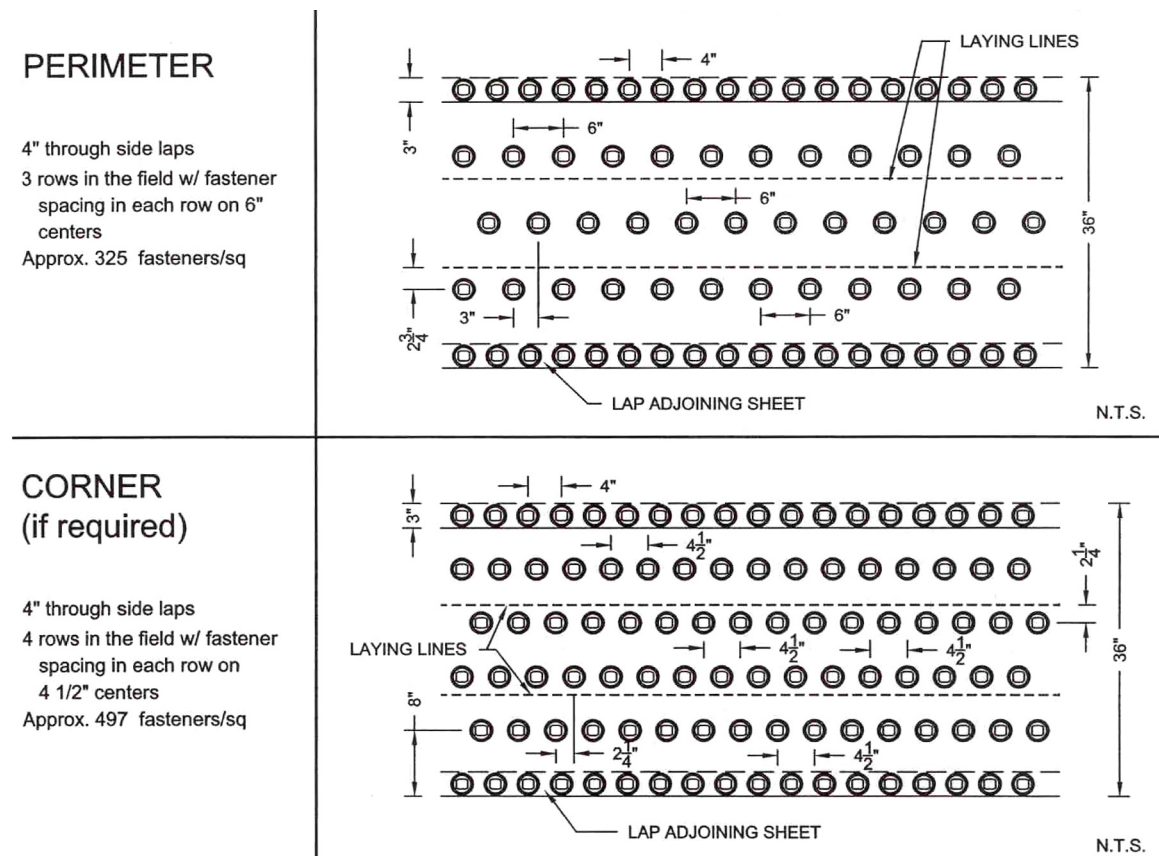

Figure 3
- Apply RT Pellets at a rate of 4 pounds per square. Coverage should be uniform and consistent across the surface. Figure 2 illustrates RT pellet distribution at a rate of 4 pounds per square. **Pellets should penetrate the Insulcel such that the pellet is nested in the concrete surface. Pellets should not sink entirely or be resting on the surface of the concrete.** Proper pellet penetration depth is illustrated in Figure 3. The optimum vertical drop distance for the pellets to achieve proper penetration of the Insulcel is no more than 12 inches from the surface of the fresh concrete.
1. Nail Para-Lok fasteners at the same rate as 1-150 Zono-tite pattern extrapolated for the corners and perimeters. (Figure 3.)